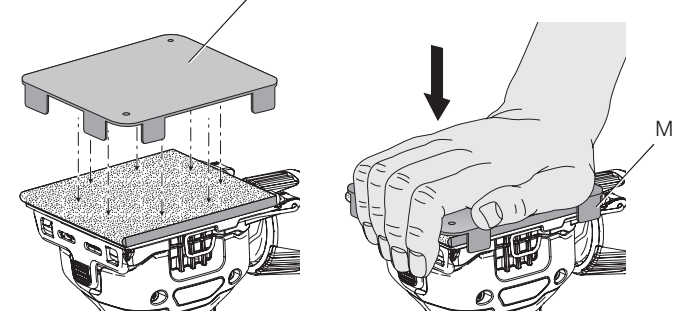

FIG. 8
- While holding the sander, fit the dust bag collar (K) to the vac-adapter (I) as shown in Figure 8.
- Turn the collar (K) clockwise to lock the dust bag (J) in place.